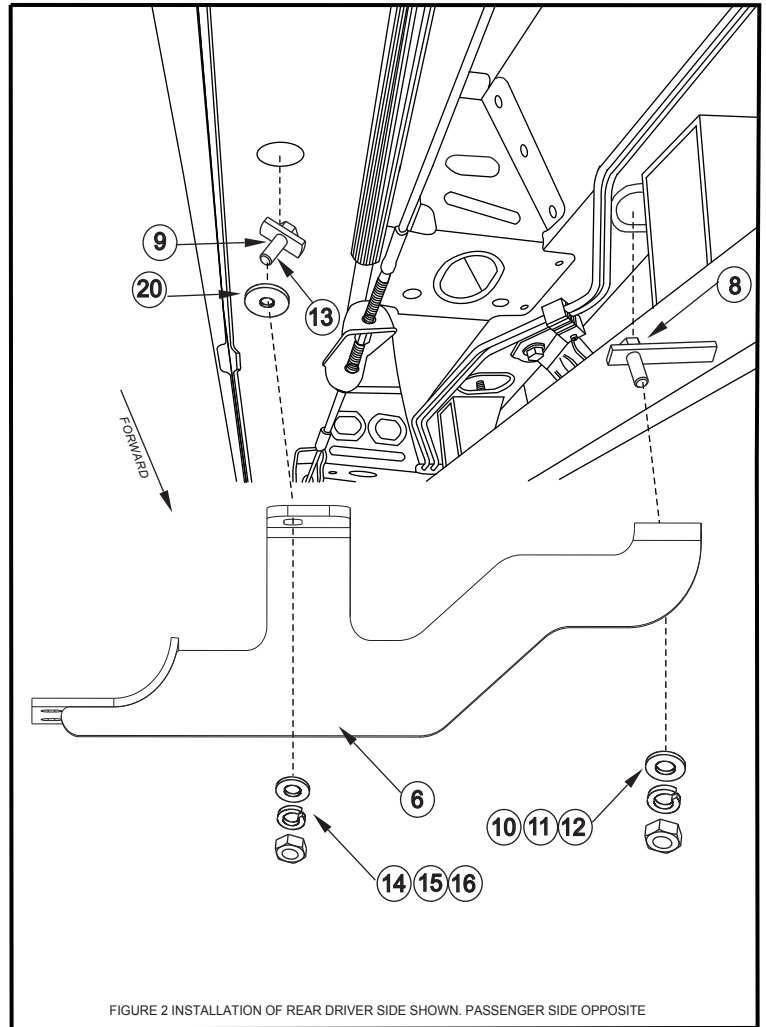

FIGURE 2 INSTALLATION OF REAR DRIVER SIDE SHOWN. PASSENGER SIDE OPPOSITE
- STEP 4. Thread 3/8-16 x 1.25" hex head bolt through bridge weld nut, insert into hole, and use plastic washer to hold in place. **SEE FIGURE 2.**
- STEP 5. Insert 1/2-13 x 1.50" bolt plate into hole. **SEE FIGURE 2.**
- STEP 6. Attach rear driver side bracket to the previously inserted bolt plates. **SEE FIGURE 2.**